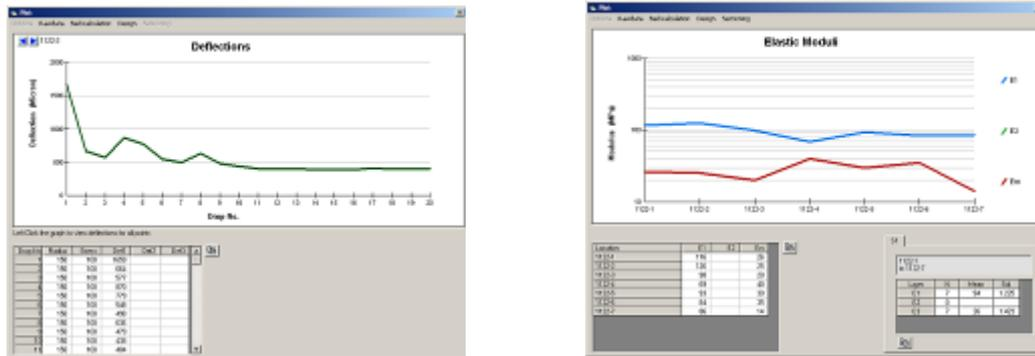

Figure 3 - LWDmod deflection and elastic modulus displays
- Analysis of load/deflection time histories (see Figure 3).